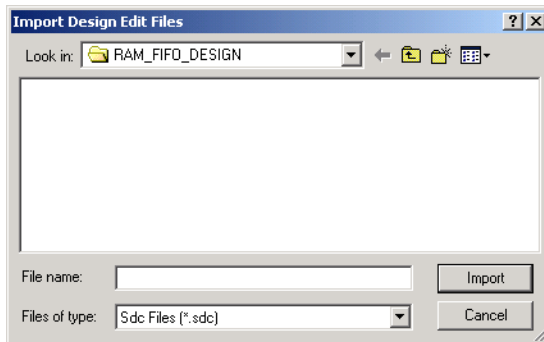

Figure 2-14. Adding an SDC File
2. **Click *Add*.** The Add Auxiliary Files dialog box appears, as shown in Figure 2-14 .